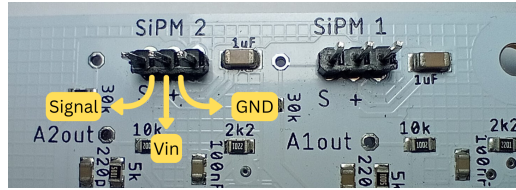

Figure 4: SiPM connection pins on the Muon Count PCB.
1. Connect the 3 wires of each SiPM to the pins of the Muon Count PCB as shown in the Figure 4. Be careful to connect the *Signal* wire to the pin labeled *S*, the *GND* wire to the pin on the right, and the *Vin* wire to the “+” pin.